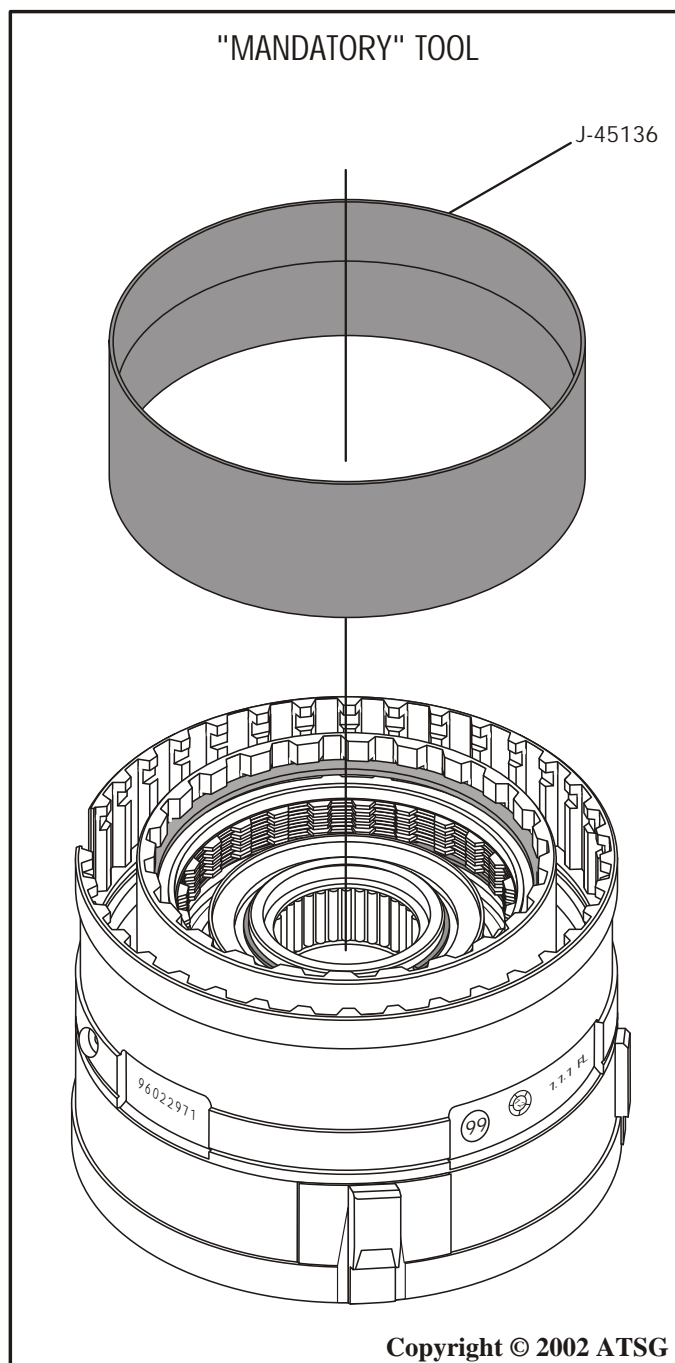

Figure 144
28. Install J-45136 lip seal protector, as shown in Figure 144.